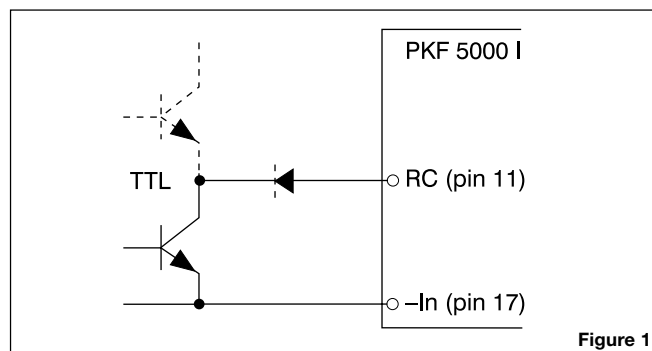

Figure 1
Turn-on or turn-off can be realized by using the RC-pin. If pin 11 is connected to pin 17 the power module turns off. Normal operation is achieved if pin 11 is open (NC) . To ensure safe turn-off the voltage difference between pin 11 and 17 shall be less than 2.0V. RC is an TTL open collector compatible output with a sink capacity >300 μA (see fig. 1).